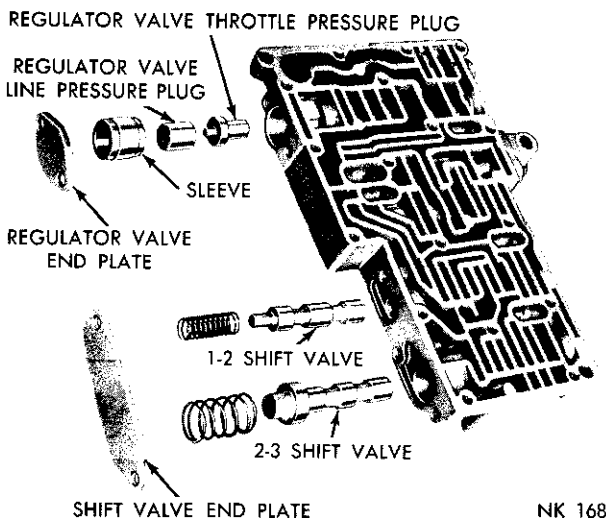

Fig. 63—Valve Body—Shift Valve Side (Disassembled)
(16) Remove the shift valve end plate (Fig. 63) and slide out the two springs and valves.
(17) Remove the regulator valve end plate. Slide the regulator valve line pressure plug, sleeve, and the regulator valve throttle pressure plug out of the valve body.
(5) Install the 1-2 and 2-3 shift valves and springs (Fig. 63). Install the shift valve end plate and tighten the three retaining screws to 28 inch-pounds torque.
(6) Install the regulator valve throttle pressure plug sleeve, and the line pressure plug (Fig. 63). Install the regulator valve end plate and tighten the two retaining screws to 28 inch-pounds torque.